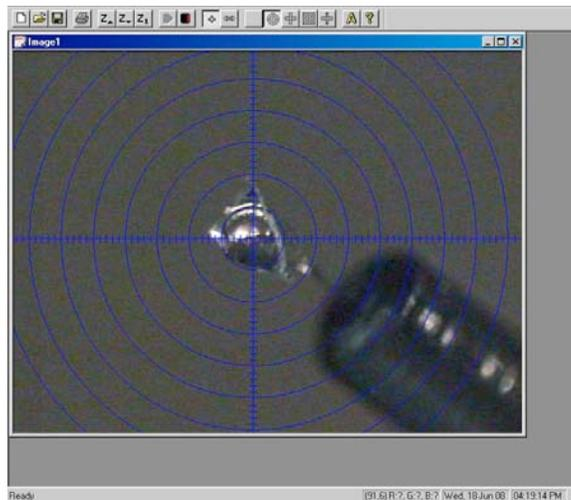

Figure 10
- 15) Use the Video window (Figure 10) to help centering crystals.